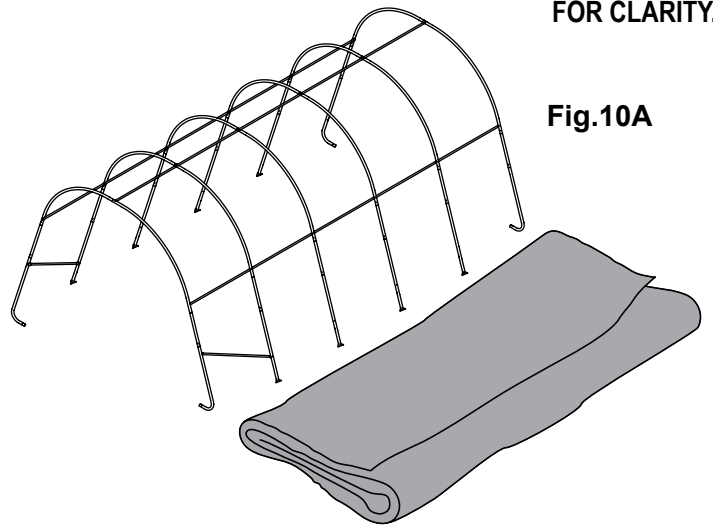

Fig.10A
A. Lay the cover on the ground next to the frame with the inside of the cover (the side with the pipe pockets) facing down and the webbing on the front and rear of the corner of the building. Position the cover so that it is centered to the frame, front to back. Fig. 10A